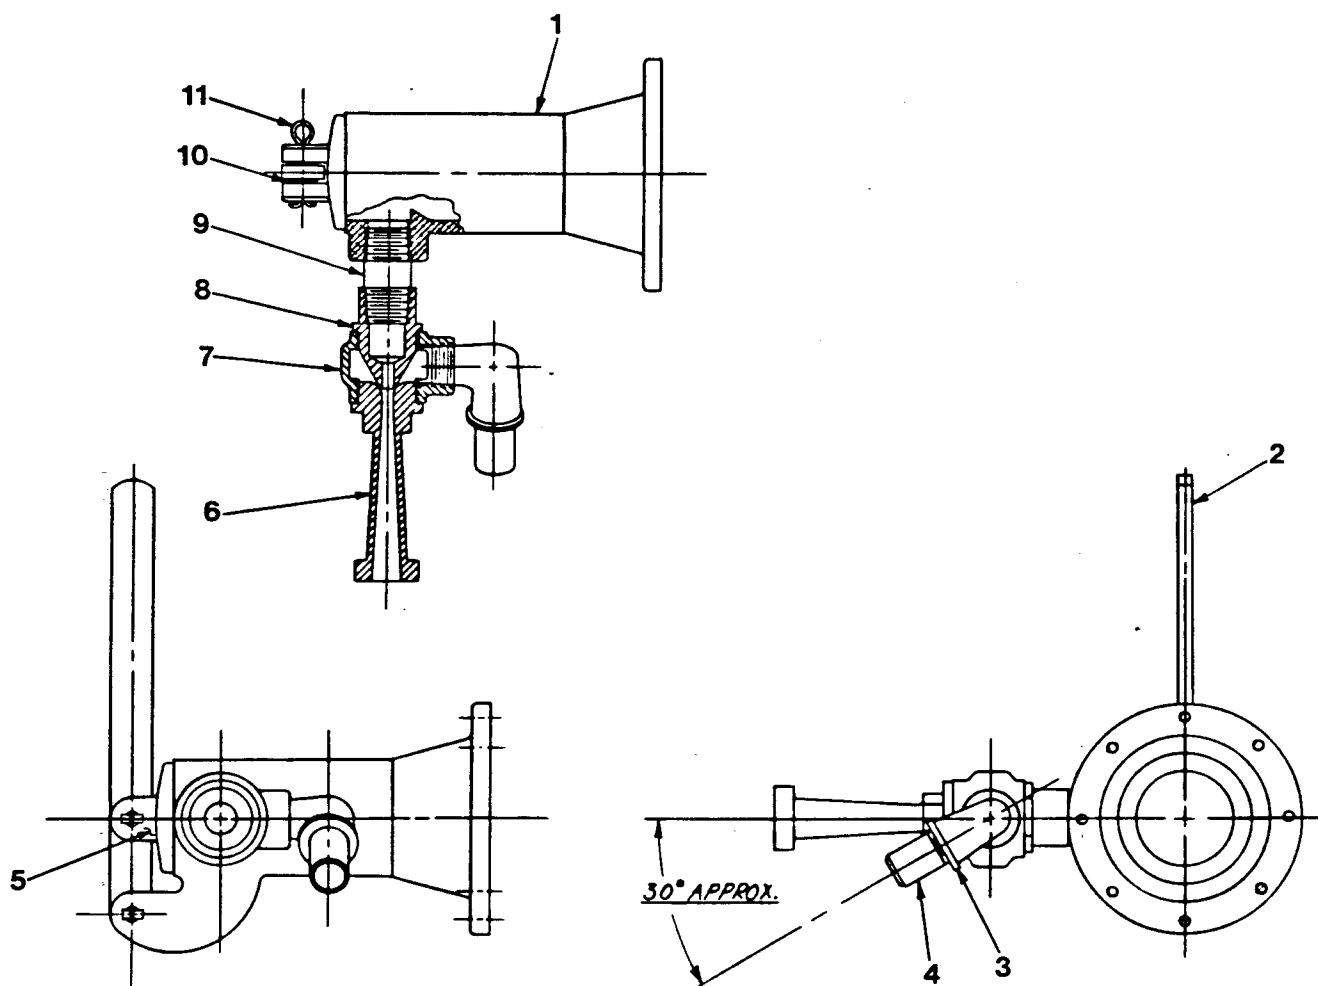

Figure 3. Exhaust Primer Assembly GRP15-25
To separate the exhaust primer assembly (1) from the spark arrestor and muffler (5 and 6), remove the hardware (2 and 3). Retain the gasket (4). To disassemble the exhaust primer, refer to Figure 3, remove the valve handle, and unscrew the various primer components.